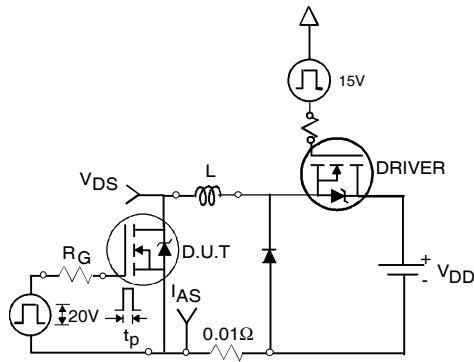

Fig 12a. Unclamped Inductive Test Circuit
- ③ $I_{SD} \leq 101A$, $di/dt \leq 210A/\mu s$, $V_{DD} \leq V_{(BR)DSS}$, $T_J \leq 175^\circ\text{C}$
- ④ Pulse width $\leq 400\mu s$; duty cycle $\leq 2\%$.
- ⑤ $C_{oss\text{ eff.}}$ is a fixed capacitance that gives the same charging time as C_{oss} while V_{DS} is rising from 0 to 80% V_{DSS} .
- ⑥ Calculated continuous current based on maximum allowable junction temperature. Package limitation current is 75A.
- ⑦ Limited by T_{Jmax} , see Fig.12a, 12b, 15, 16 for typical repetitive avalanche performance.
- ⑧ R_θ is measured at T_J of approximately 90°C .
3. Equation below based on circuit and waveforms shown in Figures 12a, 12b.